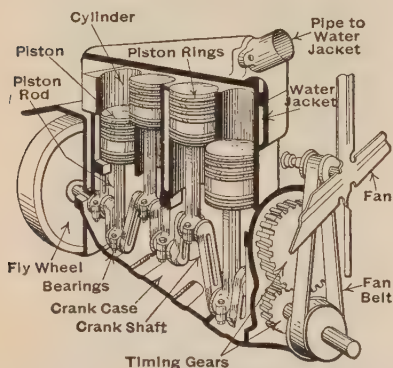

FIGURE 181A. — A FOUR-CYLINDER AUTOMOBILE ENGINE AS SEEN FROM THE SIDE (INTERIOR VIEW).
or *exhaust* stroke, an *intake* (stroke) of new gases, and a *compression* (stroke) of gases. How can all these actions be accomplished in order and with efficiency? (Fig. 181a).
The modern automobile, however, as a result of many improvements, has become a very complex mechanism. It may now be said to be composed of several systems. (1) The chassis (shà'sě), including the wheels, frame, springs; (2) the body and its attachments (Fig. 185); (3) the power plant, or the engine and its parts (Figs. 181a and 181b); (4) the transmission system, which connects the engine with the driving wheels (Figs. 182a and 182b); (5) the cooling system